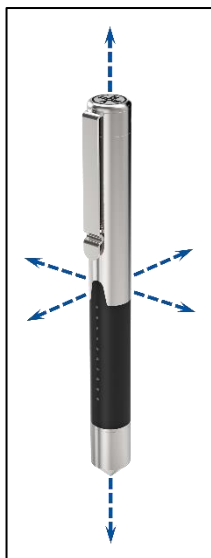

Figure 5
1. Shake the LEAKPEN once along any axis (Figure 5).